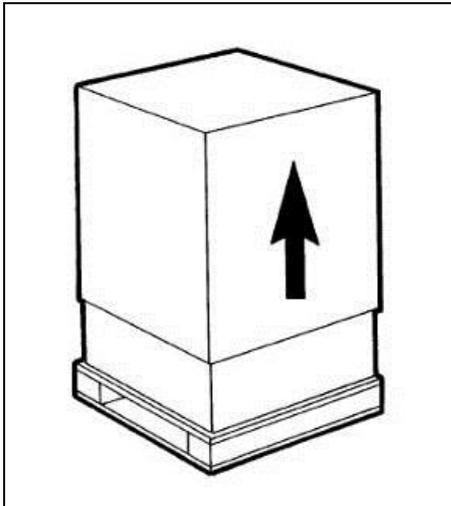

Fig. 1
b) Rest the machine on a sturdy, horizontal surface making sure it is well ventilated by leaving a gap of 20 cm around it and do not install it near heat sources (fig.1); **we recommend you to maintain a room temperature between 24 and 30°C.**